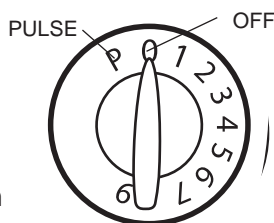

Figure 9
1. For short bursts of power, use the PULSE setting repeatedly. Turn the Speed Control Dial from (O) OFF to (P) PULSE.
2. When pulsing is completed, turn the Speed Control Dial to (O) OFF, as shown in Figure 9, to stop the Kitchen Machine. Unplug the unit.